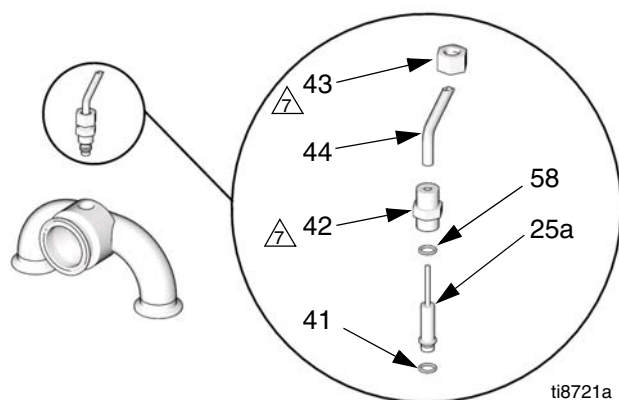

FIG. 7. Pressure Transducer
11. See FIG. 7. At the pump outlet manifold (17), loosen the transducer nut (43) and unscrew the adapter (42) from the manifold. Remove the transducer (25a) from the manifold port and pull its cable out of the conduit (44).
12. Install one new black o-ring (41) and the new brass spacer (58) on the transducer (25a).
14. See FIG. 7. Insert the transducer into the outlet manifold (17). Torque the adapter (42) first, then the nut (43) to 15-20 ft-lb (21-27 N•m).